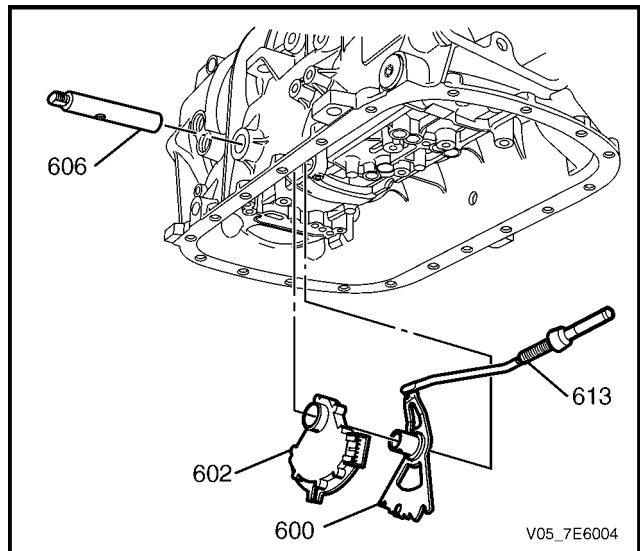

Figure 7E4 – 128
- 1 Refer to Figure 7E4 – 97. Reinstall the manual shift shaft position switch (602), the manual shift shaft detent lever (600) and the park pawl actuator (613) as an assembly.
- 2 Align the manual shift shaft detent lever (600) shaft hole with the case, then fully insert the manual shift shaft (606) into the transmission case.